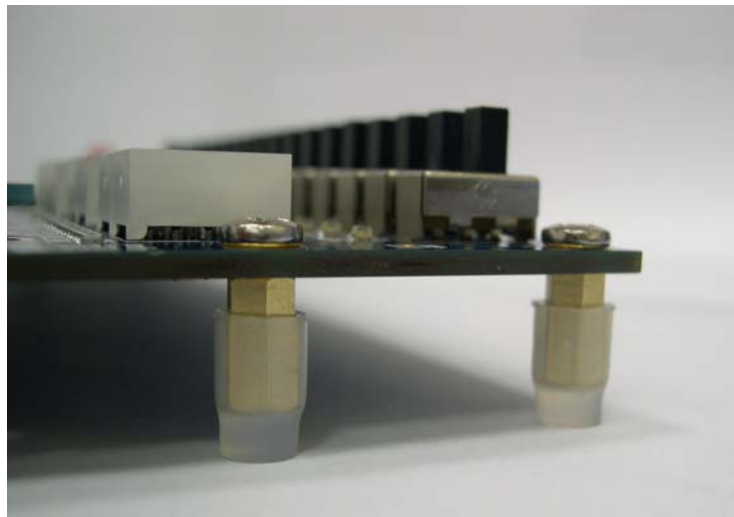

Figure 1.2. The feet for the DE2 board.
- Assemble a rubber (silicon) cover, as shown in Figure 1.2, for each of the six copper stands on the DE2 board